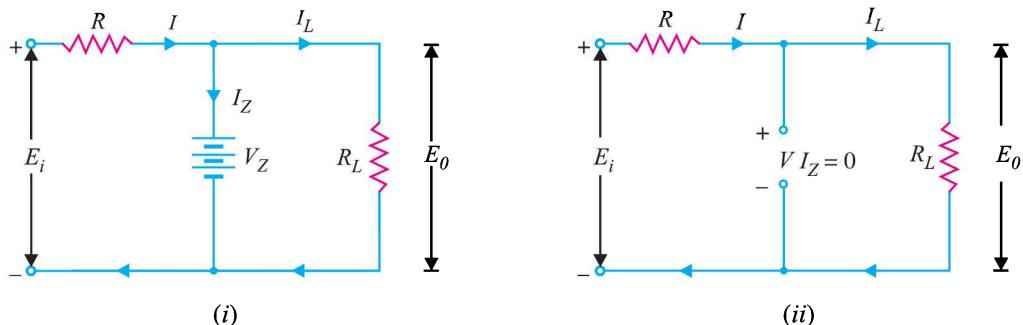

Fig. 6.58
If  $V \geq V_Z$ , the zener diode is in the “on” state and its equivalent model can be substituted as shown in Fig. 6.58 (i). If  $V < V_Z$ , the diode is in the “off” state as shown in Fig. 6.58 (ii).
**(i) On state.** Referring to circuit shown in Fig. 6.58 (i),
(ii) **Off state.** Referring to the circuit shown in Fig. 6.58 (ii),